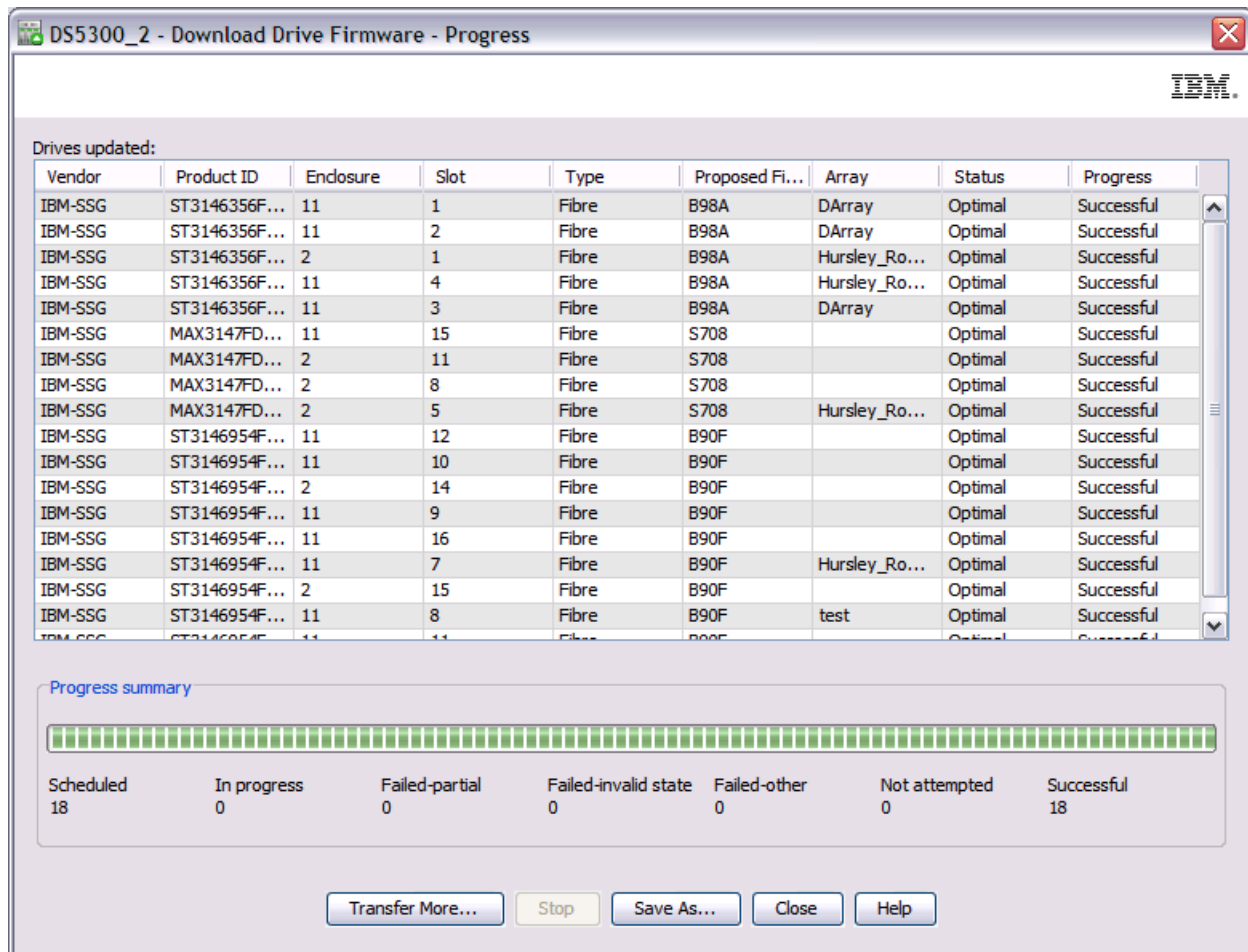

Figure 5-27 Drive firmware update: Download progress window
7. Once the drive firmware download procedure starts, you can monitor the progress, as shown in Figure 5-27. This gives you information about the current status of the download. After the process is finished, you can also see whether all drives were successfully updated.